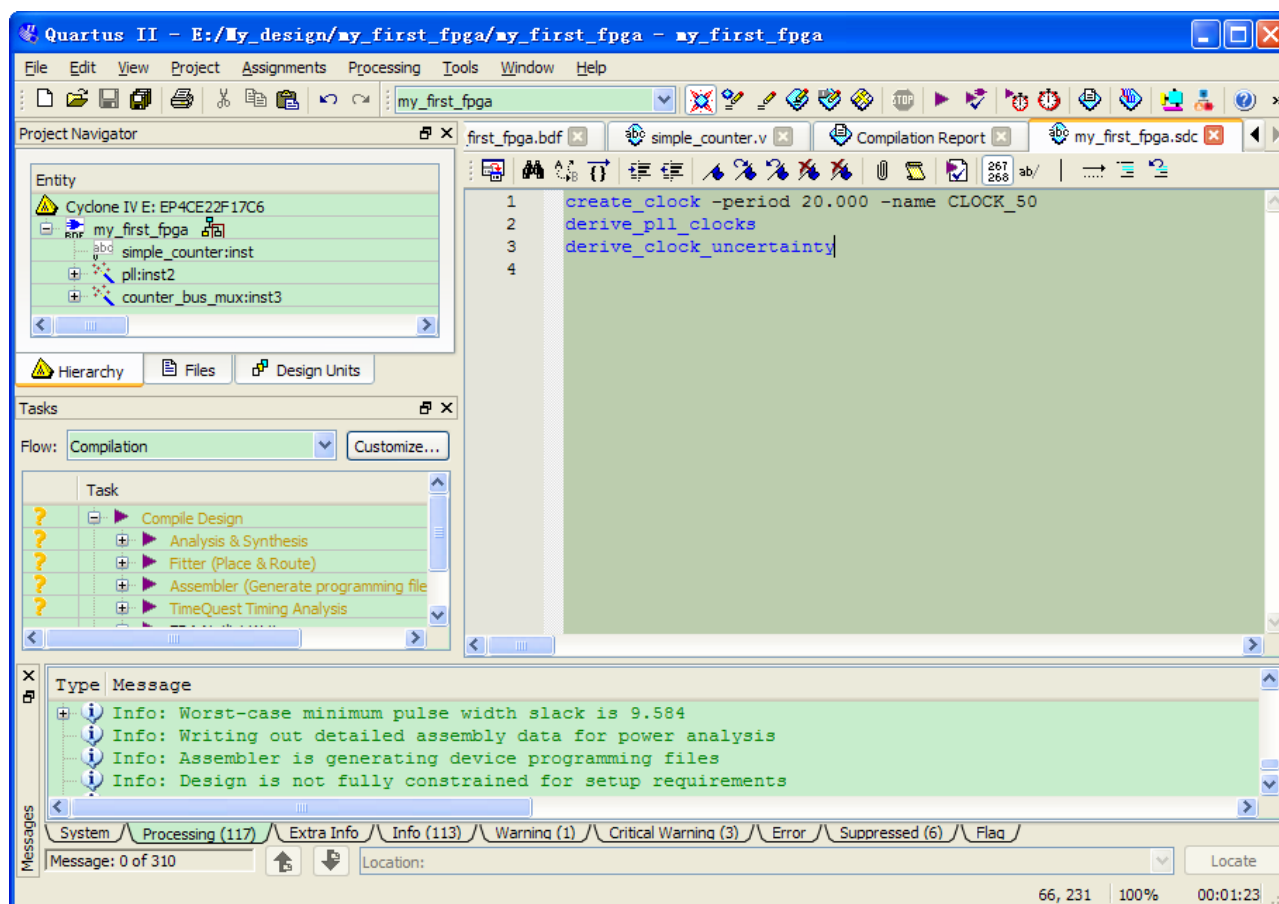

Figure 6-43 Default SDC
4. Save this file as my\_first\_fpga.sdc (see Figure 6-43)